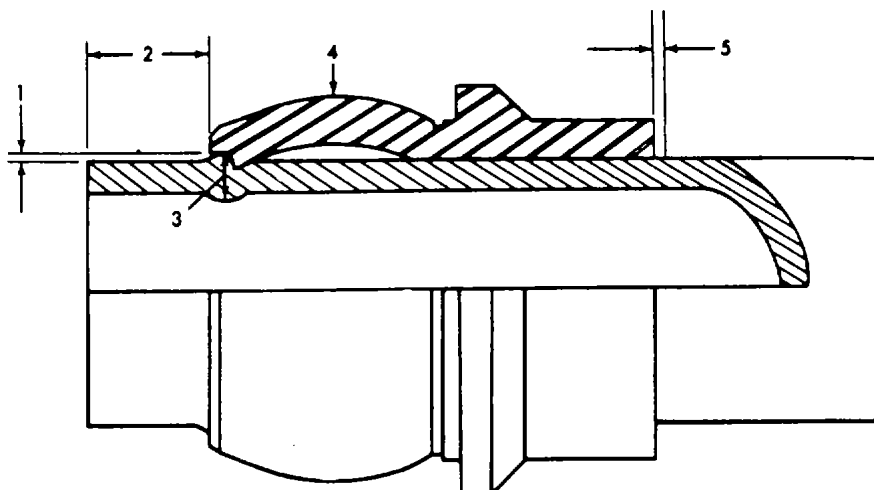

Figure 3-74 Flareless Tube Fitting Dimensions.
i. *Flareless Fittings.* The Careless fitting is subjected to high pressures in the loader. The sleeve on the end of the tubing must therefore be installed correctly if reliable operation is to be realized. Figure 3-74 shows the correct way to install sleeves.